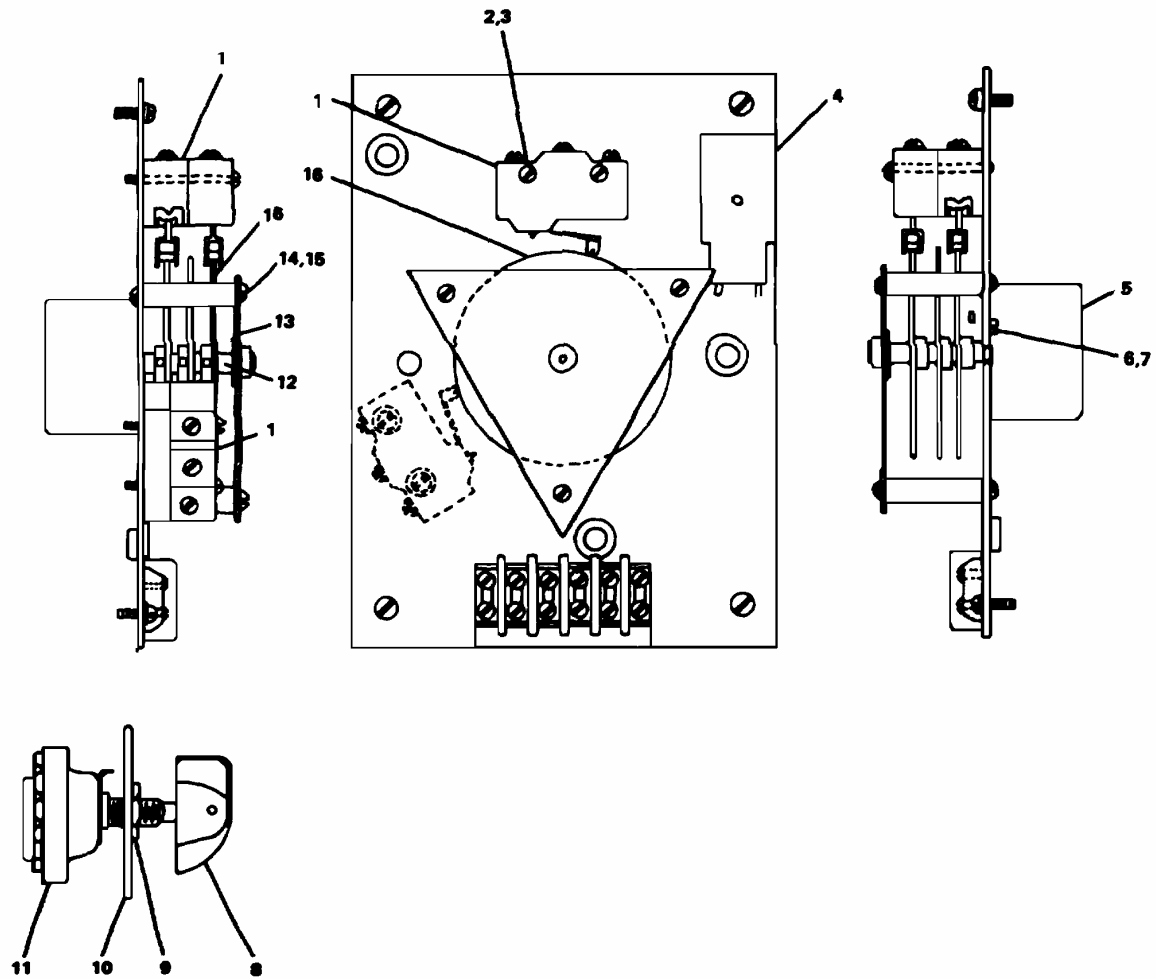

Figure 2-40. Sequential Timer, Repair.
**2-48. Repair Sequential Timer. (FIGURE 2-40)**